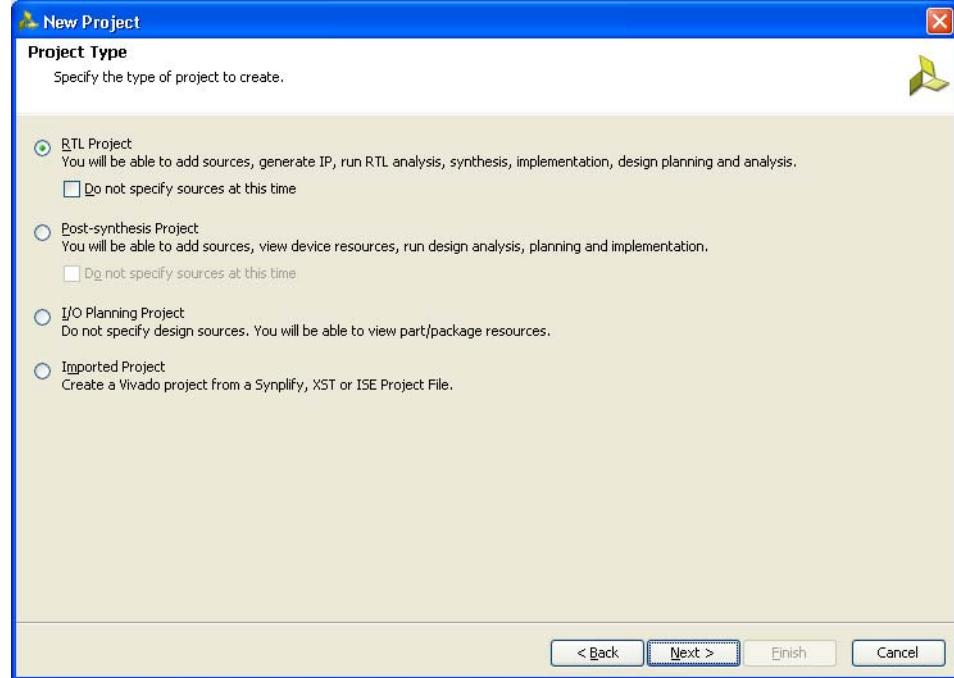

Figure 6-4: Project Type
4. Click **Next** to proceed to the Project Type page (Figure 6-4). Select the Project Type as RTL Project because MIG deliverables are RTL files.